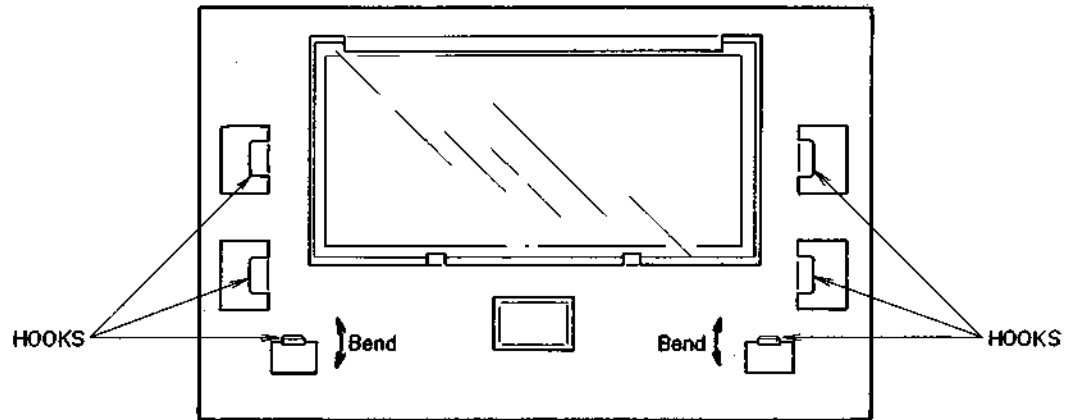

Fig. 17 Inner Side of Lid Panel
9. FRONT PANEL LID CASE SPACING ADJUSTMENT (Refer to Fig. 17)
In case the Lid Case comes too far toward either side, adjust by bending the two lower hooks as indicated by the arrow marks in Fig. 17.